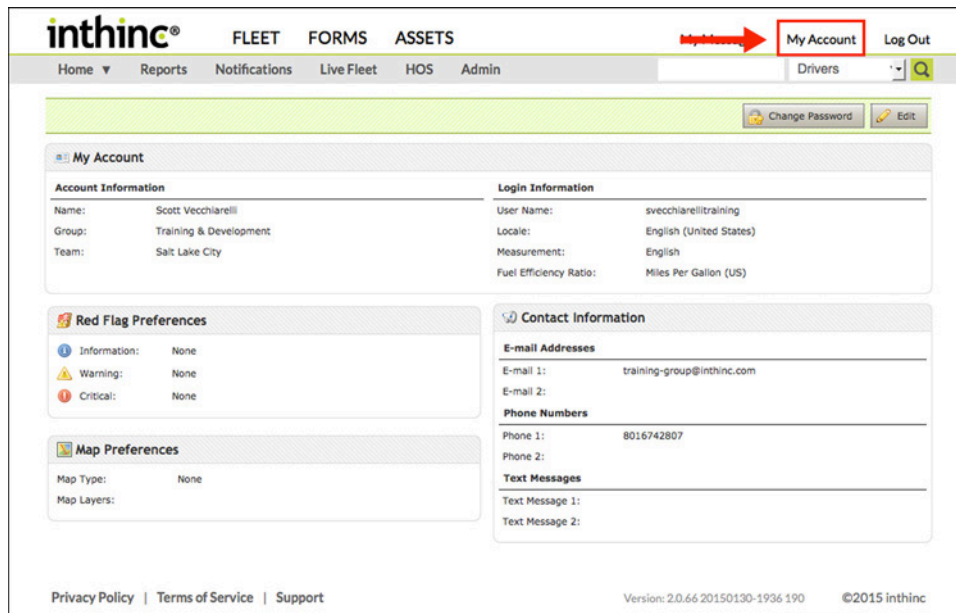

Figure 2 My Account profile page
- 1 At the top of the screen, click the **My Account** link. The My Account page appears (*Figure 2*), with account information, notification preferences, login information, and contact information.